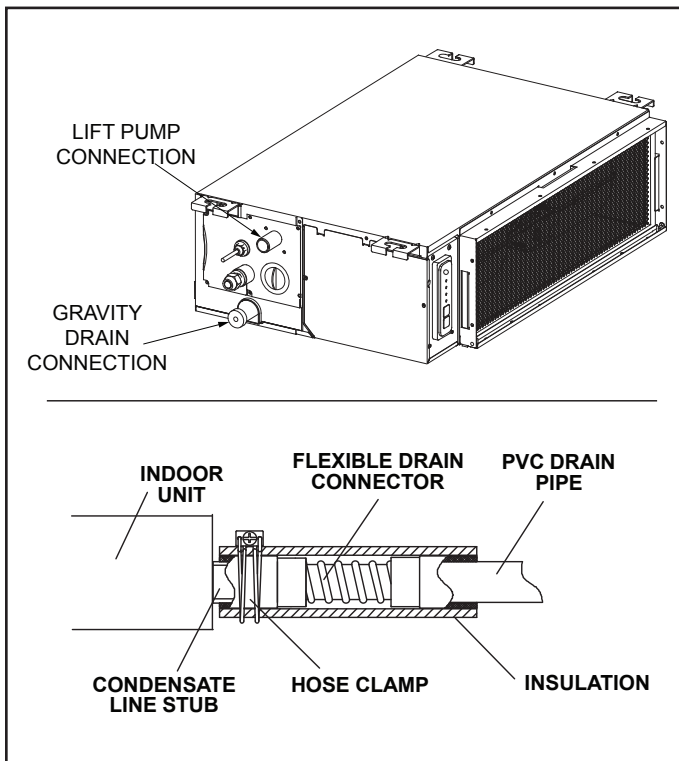

Figure 18. Condensate Drain Connection
1. Use the provided hose clamp to secure the provided flexible condensate drain connector and insulating sleeve to the drain line stub on the side of the indoor unit. See figure 18. **NOTE** - Take care not to overtighten the hose clamps this may damage the drain line stub.